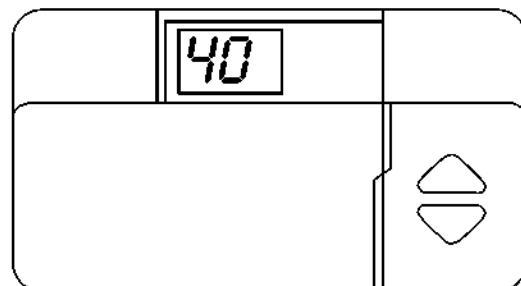

Fig. 3 - Lowest Temperature Setting
1. Set your room thermostat to the lowest temperature setting. See Fig. 3.
1. Set your room thermostat to the lowest temperature setting. (See Fig. 3.)